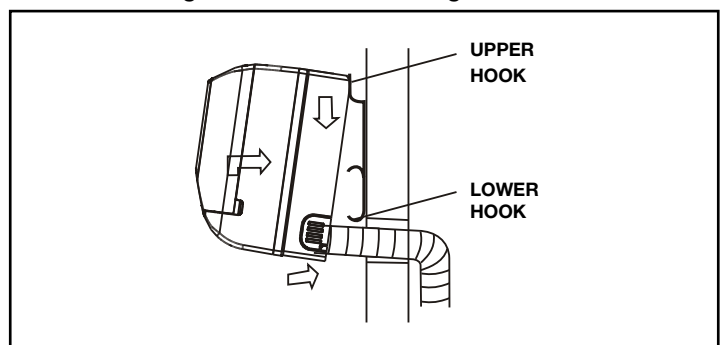

fig.6
2. Connect the upper part of the unit to the metal plate as shown in fig. 6, then move it to right and left to check it is firmly fixed.